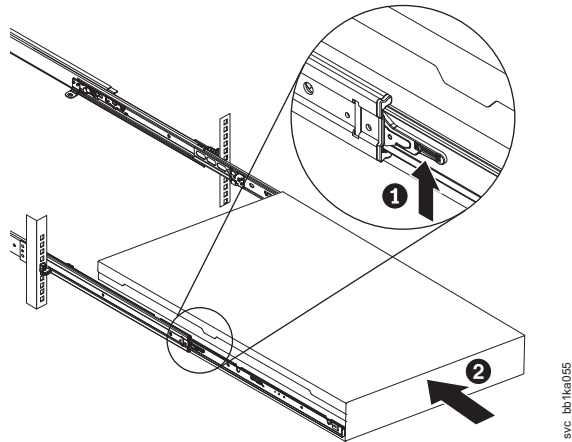

Figure 272. Raising the locking levers of the slide rails of the rack
9. Lift the locking levers (**1** in Figure 272 on page 328) on the slide rails and push the server **2** all the way into the rack until it clicks into place.